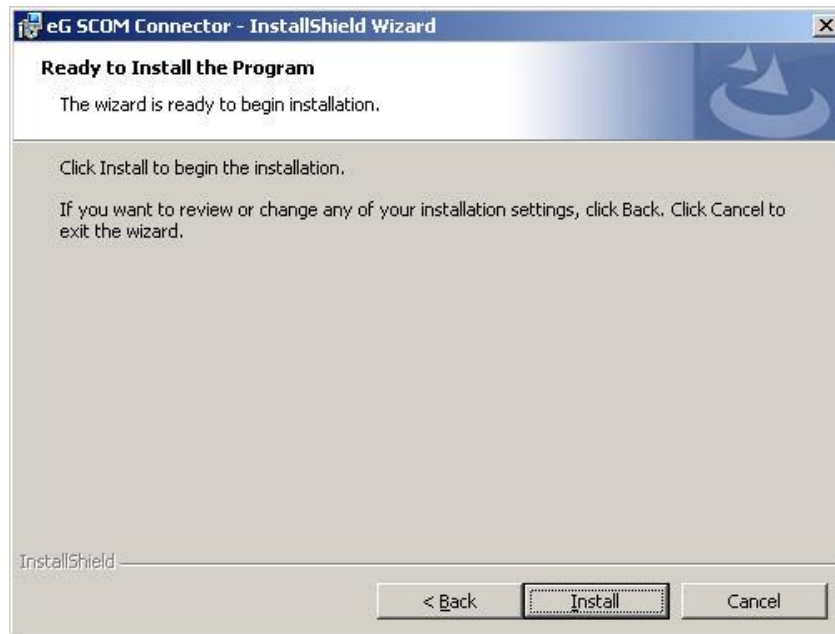

Figure 2.5: Clicking 'Install' to begin the installation
8. When Figure 2.5 appears, click **Install** to begin the installation.